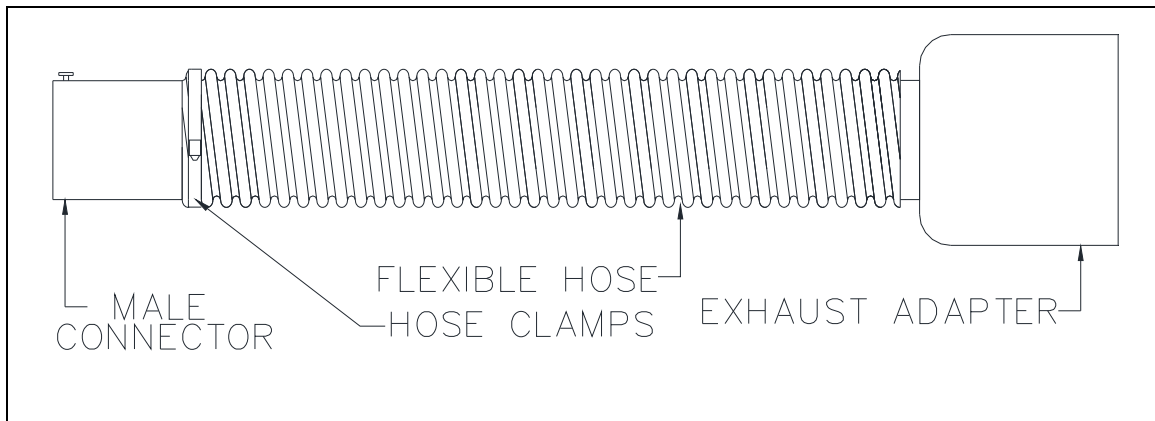

FIG2 – Hose Assembly
2. Attach the components of the hose assembly as shown in FIG 2.